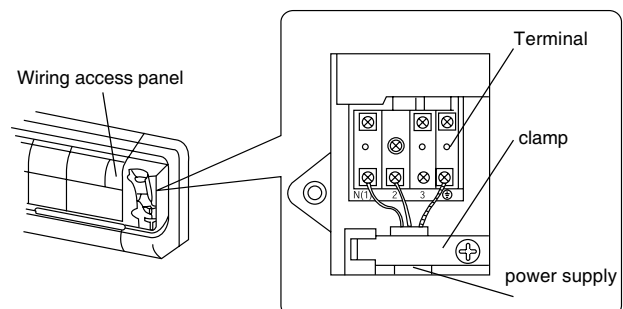

Figure 4
4. Connect the blue wire of the power connection cord to the terminal "N(1)", the brown one to "2", and the yellow-green one (earth wire) to "⊥" terminal as shown Figure 4, tighten the power supply cords by a clamp installed in front of the terminal block. (Figure 4)